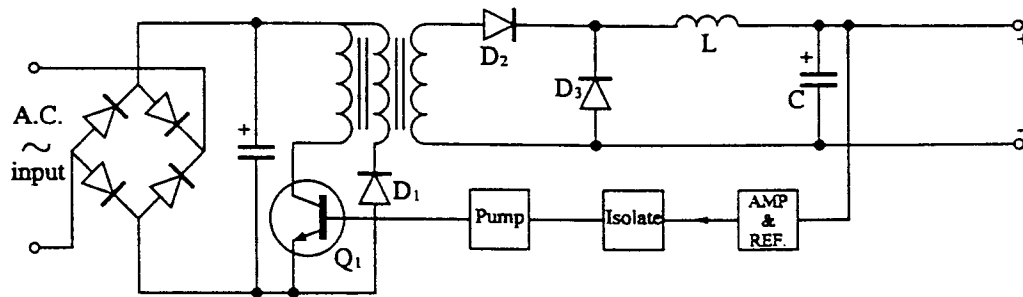

Fig. 1
- Refer to the circuit in Fig. 1. This block diagram shows a switched mode voltage regulator that can be described as a:
- Refer to the circuit in Fig. 1. Diode D1 is used in this circuit to: